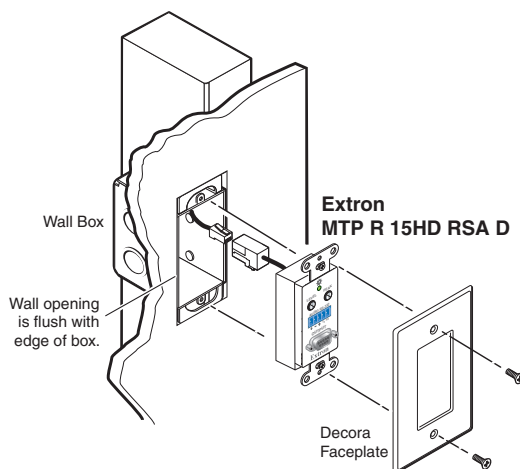

Figure 3 — Mounting the receiver
2. Mount the receiver into the box, and attach the supplied Decora faceplate to the unit, as shown in figure 3.